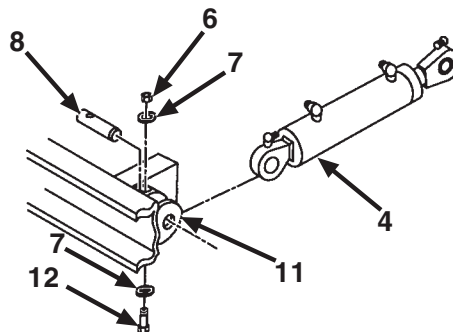

Figure 70. Track Adjusting Cylinder Rod End.
Step 3 applies to Figure 70.
3. Remove screw (item 12), washers (item 7), locknut (item 6), and pin (item 8), and fixed end of track adjusting cylinder (item 4) from hull mounting bracket (item 11).